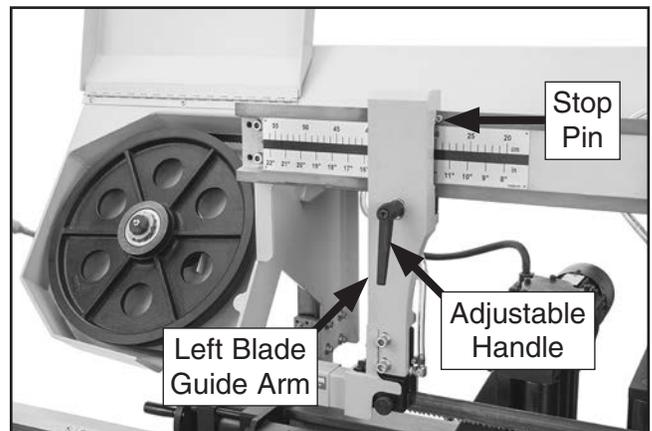

Figure 29. Left blade guide arm positioned.
8. Loosen adjustable handle on left blade guide arm and move arm until it contacts stop pin on scale, as shown in **Figure 29**.